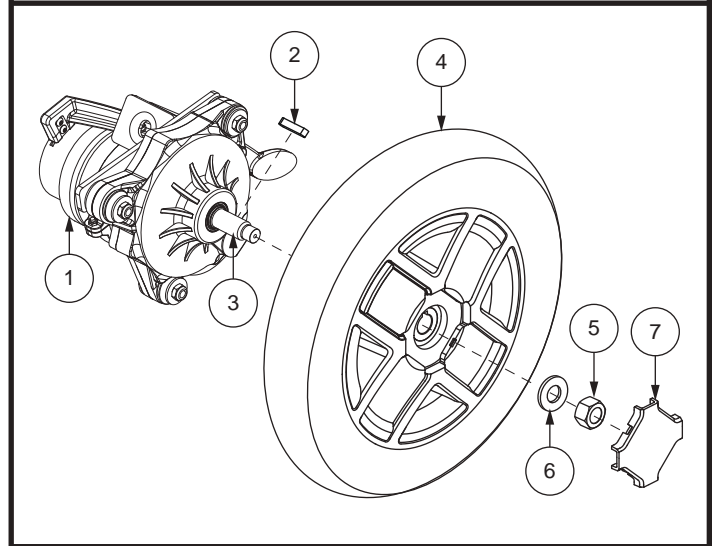

Figure 23. Drive Wheel Removal
6. Remove the drive wheel nut and washer from the axle. See figure 23.
9. Reinstall the drive wheel nut and washer onto the axle and tighten. See figure 23.